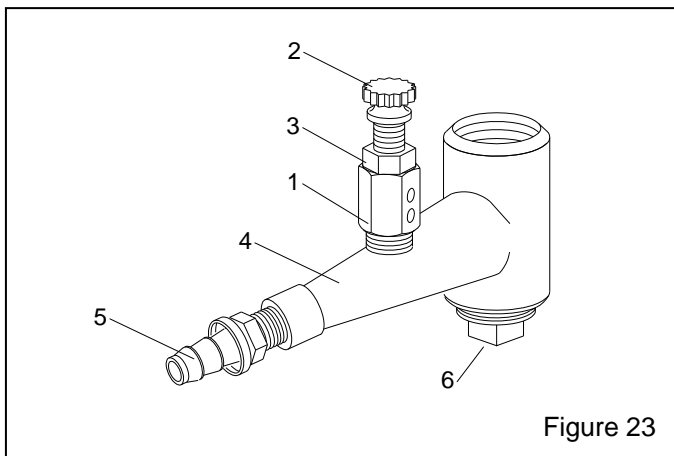

Figure 23
9.5 Metering valve assembly, Figure 23